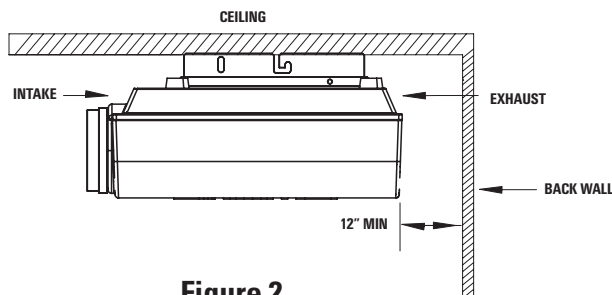

Figure 2
2. In rooms where the projector is mounted near a rear wall, be sure to allow adequate clearance for proper ventilation. Allow at least 12” of rear-facing clearance. (See Figure 2). Improper ventilation is a cause the TransVision projector to overheat, shortening lamp life and reducing the reliability of electronic components. Projector failures due to overheating will invalidate the manufacturer’s warranty.